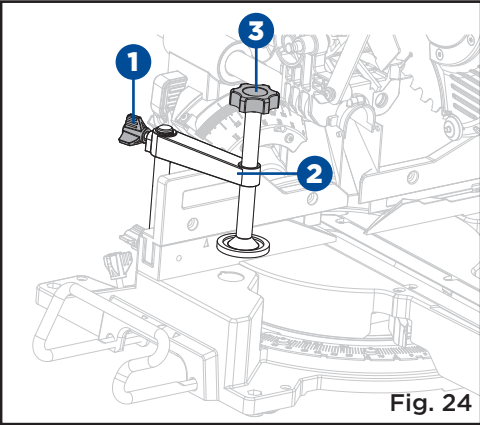

Fig. 24
**USING THE WORKPIECE CLAMP (Fig. 24)**
- Loosen the knob (1) on the side of the workpiece clamp (2), and move the workpiece clamp upward or downward to the desired position.
- Turn the knob (3) for slight adjustment.